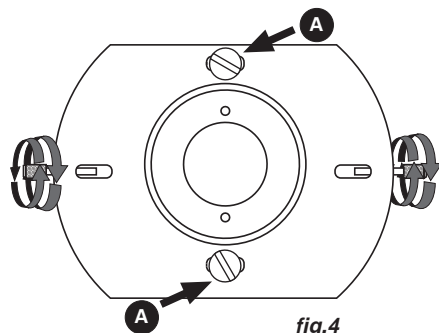

fig.4
5. **(Fig.4)** Loosen the two fastening screws (A) and use the knobs on the sides to align the lamp horizontally.